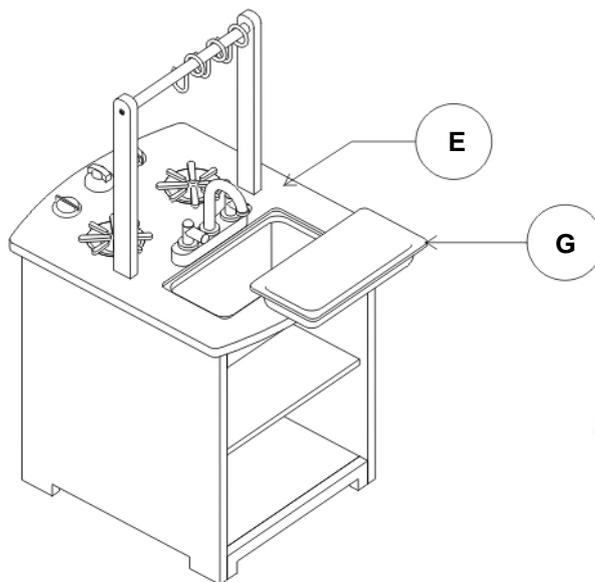

Fig. 8
8. Place the sink (G) onto the sink counter of the island body (E). See fig. 8.